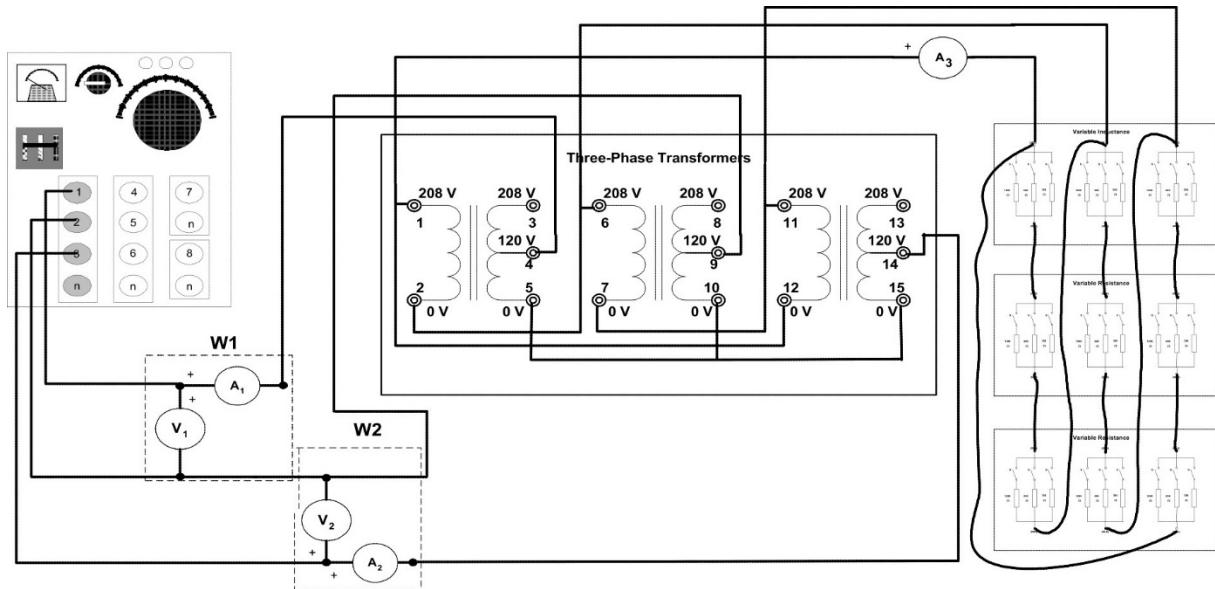

FIGURE 5.9
- 2) Analyze the circuit shown in Figure 5.9 assuming that the transformer ratio of every single-phase transformer is 1:f3 (that is, the 120 V winding is the primary and the 208 V winding is the secondary).
Step 1: Connect the circuit shown in Figure 5.9. Neutral connection will not be used.